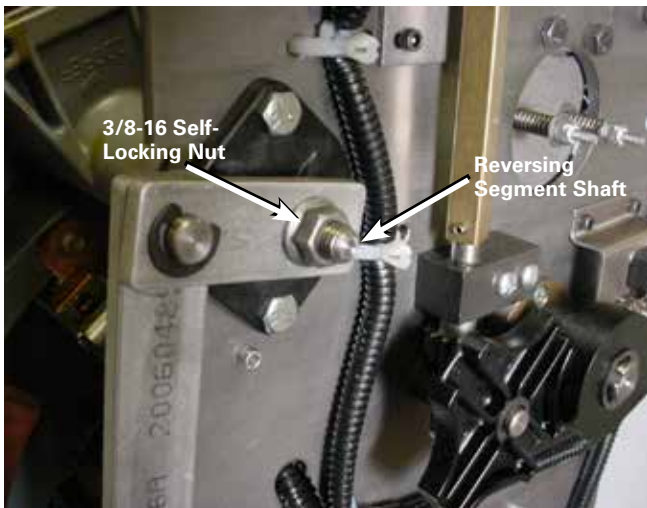

Figure 73. Reversing segment fastening.
9. Place the self-locking nut onto the reversing segment shaft. Using a 9/16" wrench, tighten to a torque of 180–192 in-lbs (20.3–21.7 Nm) while holding the movable contact assembly to prevent turning. See Figure 73.